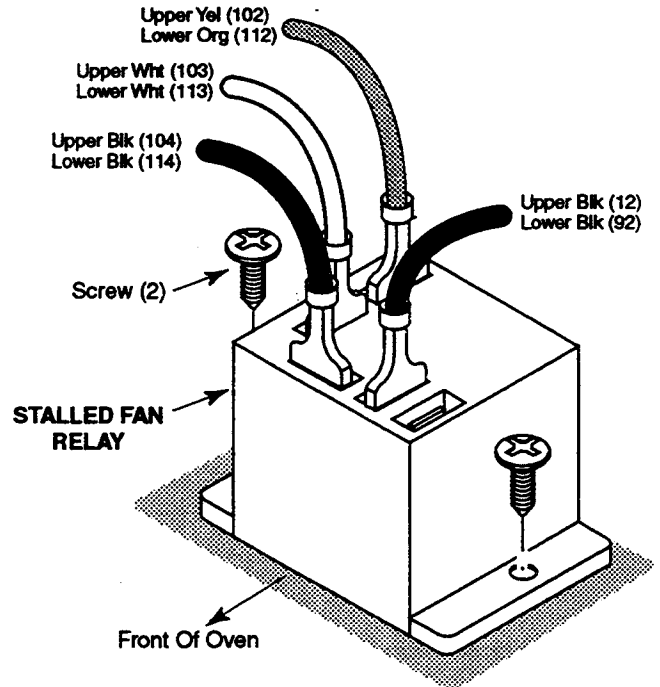

Figure 20
6. To remove a stalled fan relay (see Figure 20):